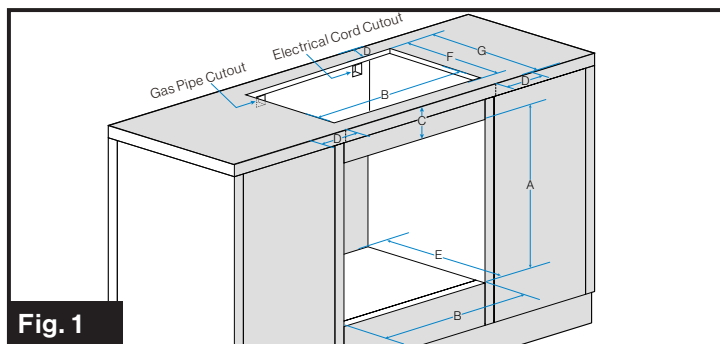

Fig. 1
**NOTE:** When the appliance is used together with a Furrion gas cooktop or induction cooktop, the cabinet cutout must be located with respect to the minimum clearance to combustible materials (minimum clearances from combustible materials: 2 inches from the rear, left and right sides (see D dimension in Fig. 1) and 30 inches from the top if a cooktop is installed). When planning the location, consider curtains or other combustible materials to be installed around the oven.
## Gas Oven with Gas or Electric Cooktop (Fig. 1)